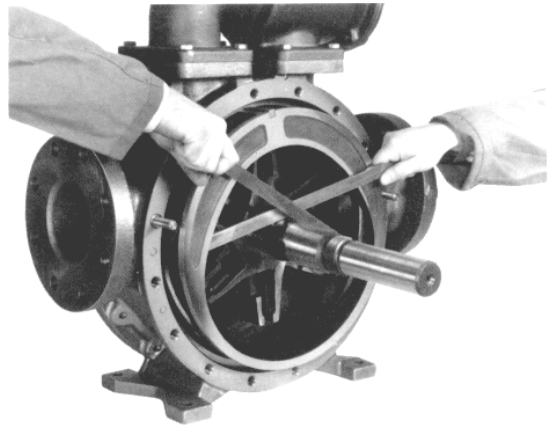

Figure 5 – Liner Removal
- a. Slide the bearing (24) out of the bearing cavity.
7. Remove the head capscrews (21) and head stud nuts (21C). Two jackscrew holes are provided in the rim of the head to facilitate removal.
8. Remove the head (20 or 20A) from the casing (12), being careful not to nick or scrape the shaft.
9. The disc (71) will come off with the head assembly and is attached with four countersunk, allen-head machine screws (71A) and lockwashers (71B).
11. From the open side of the pump, grasp the rotor in the 3 and 9 o'clock positions, and gently pull the rotor and shaft (13) out of the head assembly remaining on the casing. CAUTION: Use care to avoid injury, the rotor and shaft is heavy and may have sharp edges.
13. Depending on the pump application, the liner (41) can be removed in two ways:
- a. If the pumpage is a clean, non-corrosive liquid, with low viscosity, the liner can usually be withdrawn from the casing by prying with two bars. Insert the tips of the bars into the port openings on either side of the liner, and partially remove the liner by prying against the rotor. Use a block under the bar, against the rotor, to bring the liner the rest of the way out (see Figure 5).